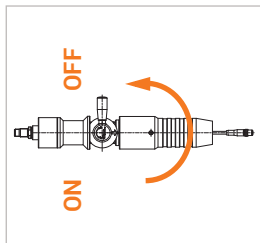

Figure 16
- ▶ Turn the actuation lever (Pos. 3) on the fueling nozzle through 180° to the OFF position (Figure 16).